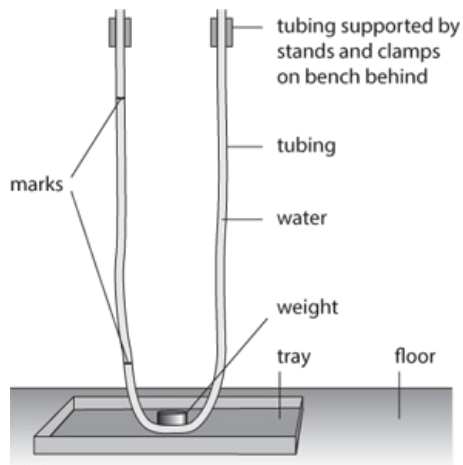

Figure 3.7: Suspended 'U'-shaped plastic tubing.
- 1 The tall U-shaped plastic tube has been set up for you as shown in Figure 3.7. One leg of the tube has two marks on it. Measure the distance L between the upper mark and the lower mark. Record the value of L in the Results section.